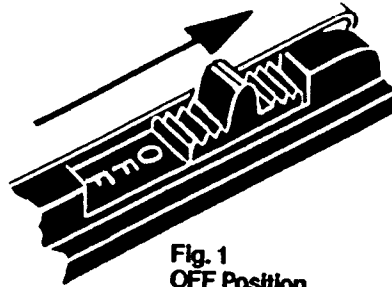
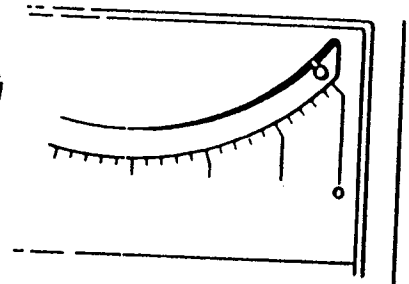

Fig. 1
Fig. 2
With chart drive switch in "OFF" position (see fig. 1) exposing the word "OFF," check mechanical zero setting of pointer (see fig. 2) before making any electrical connections to the instrument. If adjustments are necessary proceed as follows:
- c) Apply finger to star wheel and turn until pointer lines up with zero mark at the extreme right of scale. See fig. 2.
1. Move chart drive switch to "OFF" position exposing the word "OFF." See fig. 1.
4. To remove chart from take-up spindle ④, move the latches away from the take-up spindle. Turn knurled knob on spindle ④ until the slot in the take-up drive pulley at the opposite end of the spindle is lined up with the slot in the side frame of the recorder. Slide the spindle and chart up and out of the slots in the side frames of the recorder. Remove tape from chart and bobbin.
5. To unload chart paper from recorder turn chart drive switch off, exposing the word "OFF". See fig. 1. Follow 4 above. Remove chart from feed shaft ① and pull paper thru recorder.
1. Chart drive switch must be in "OFF" position (exposing the word "OFF"). See fig. 1.